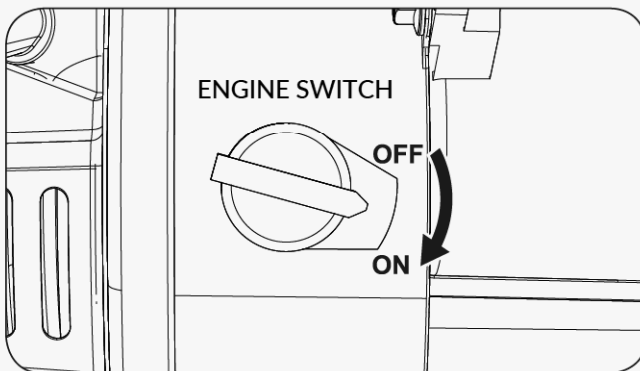

Figure 12
4. Turn the engine switch to the ON position. (see **Figure 12**)